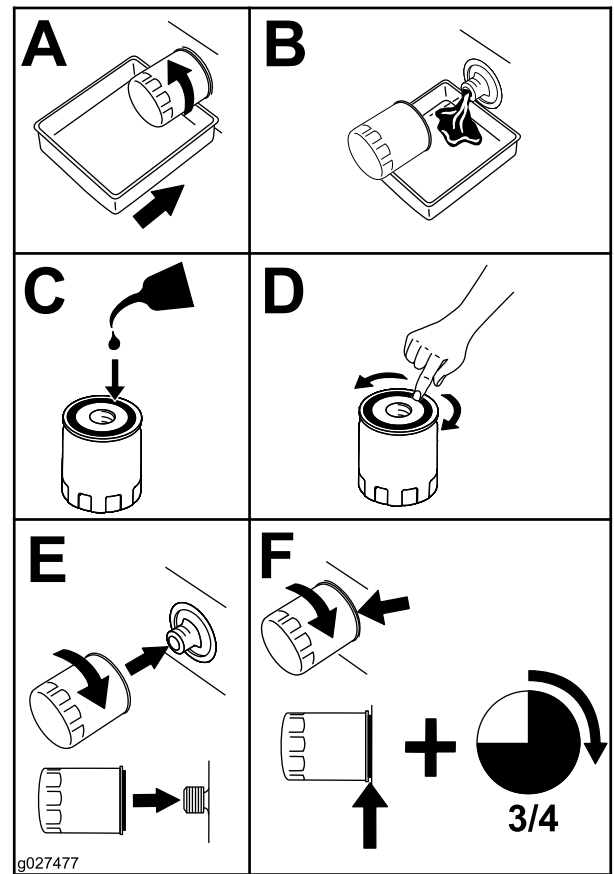

Figure 36
4. Change the engine-oil filter (Figure 36).